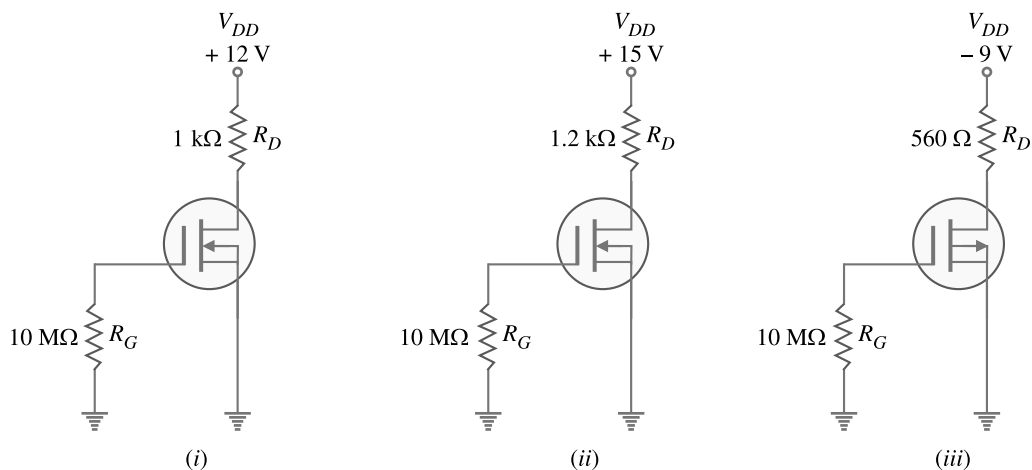

Fig. 17.76
9. Determine  $V_{DS}$  for each circuit in Fig. 17.76. Given  $I_{DSS} = 8 \text{ mA}$ .